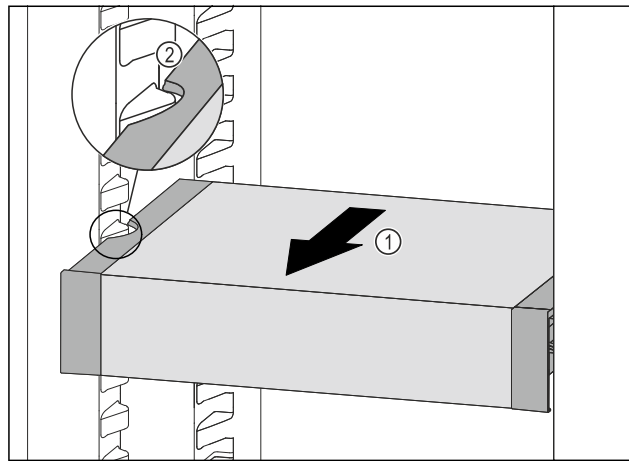

Fig. 108
- Pull VarioSafe forwards Fig. 108 (1) until the recesses in the side of the VarioSafe are at the level of the support rib in the fridge section. Fig. 108 (2)